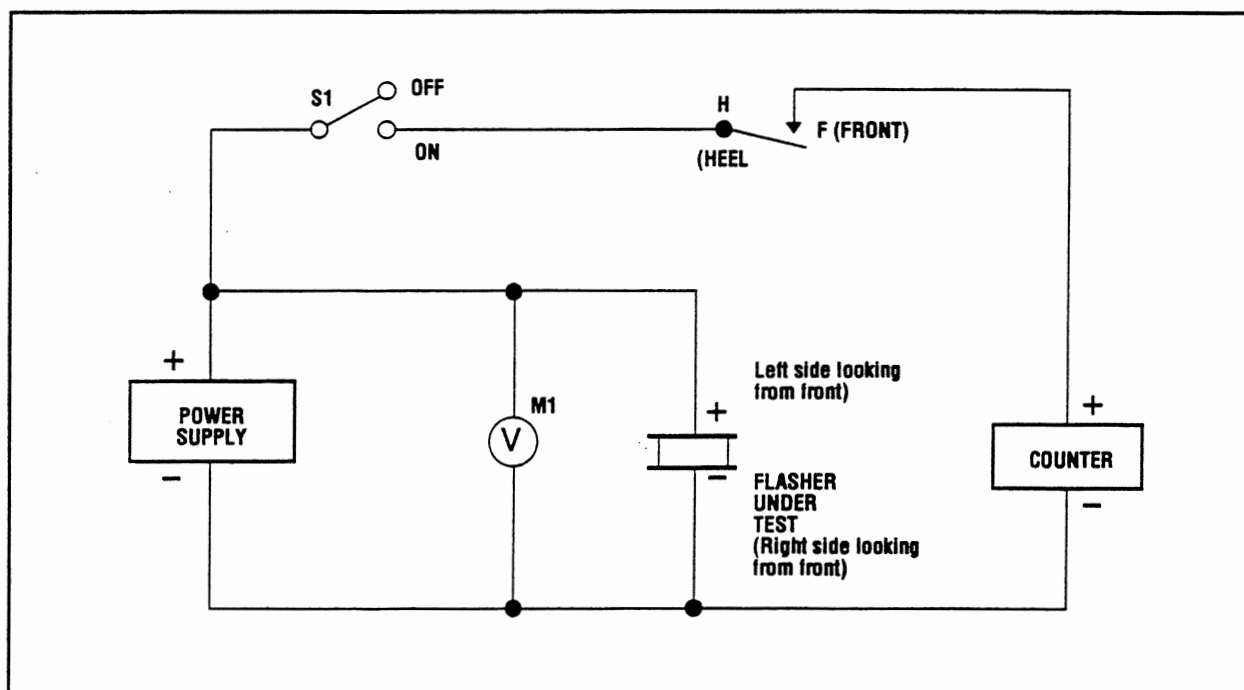

Figure 3-7. Flasher Relay, Test Setup
- With the power supply off, connect the relay under test and the required test equipment as shown in Figure 3-7.